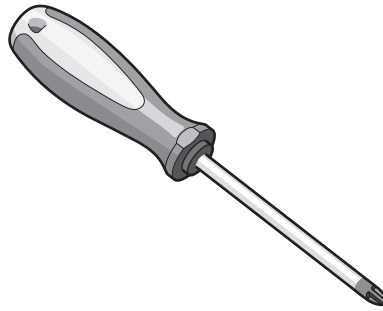

Fig. 2
- 5 Fig. 2 shows a workshop tool.